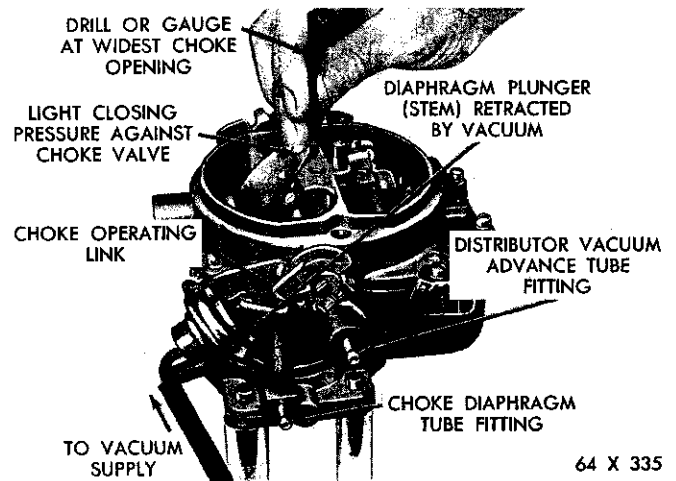

Fig. 11—Measuring the Choke Vacuum Kick Setting
(1) With the engine **Not** running, open the throttle valves far enough to allow the choke valve to be moved to the closed position.
(2) Disconnect the vacuum hose from the diaphragm and connect the hose from the vacuum supply, as shown in Figure 11. (A minimum of 10 inches of mercury (HG) will be required.)
(3) Insert a  $\frac{11}{64}$  inch drill or gauge between the choke valve and the wall of the air horn (Refer to Fig. 11). Apply a slight closing pressure to the choke shaft to hold the drill or gauge in position.
(4) An adjustment will be necessary if a slight drag is not obtained as the drill or gauge is being removed.
(7) Install the choke operating link and retest the choke valve opening, using a gauge or drill. (Refer to Fig. 11.)